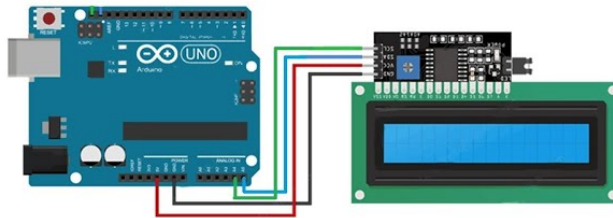

Figure 3.15: Interfacing LCD Display (16*2) with I2C module and arduino Board
1. Connect the I2C module to the LCD display as shown in Fig. 3.15.